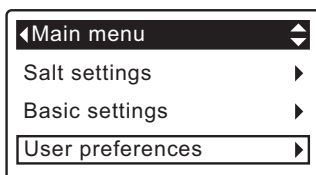

FIG. 50
2. Press the DOWN ▼ button to scroll through the menu options until **User preferences** is highlighted (See Figure 50).